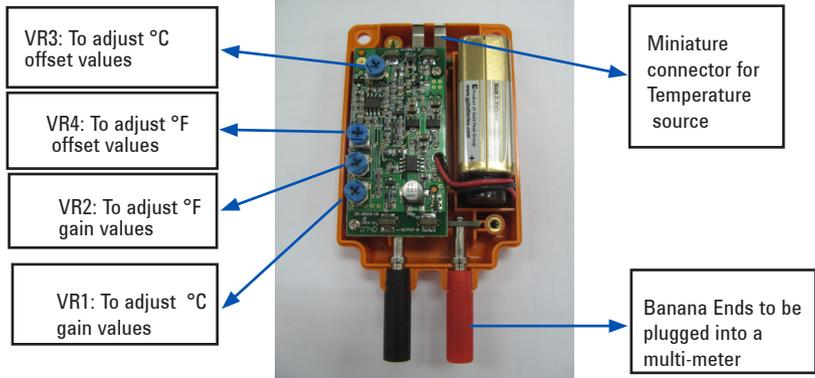

Figure 1: U1586B Adjustment Diagram
9. Look for VR3 (refer to Figure 1 for the location of VR3 in the adjustment diagram) and carefully adjust the variable resistor using a small Phillips tip screwdriver until the display of the multimeter meets the required reading of 0.0 mV ± 0.2 mV.
9. Look for VR1 (refer to Figure 1 for the location of VR1 in the adjustment diagram) and carefully adjust the variable resistor using a small Phillips tip screwdriver until the display of the multimeter meets the required reading of 300.0 mV ± 0.2 mV.
9. Look for VR4 (refer to Figure 1 for the location of VR4 in the adjustment diagram) and carefully adjust the variable resistor using a small Phillips tip screwdriver until the display of the multimeter meets the required reading of 32.0 mV ± 0.2 mV.
9. Look for VR2 (refer to Figure 1 for the location of VR2 in the circuit diagram) and carefully adjust the variable resistor using a small Phillips tip screwdriver until the display of the multimeter meets the required reading of $572.0 \text{ mV} \pm 0.2 \text{ mV}$.